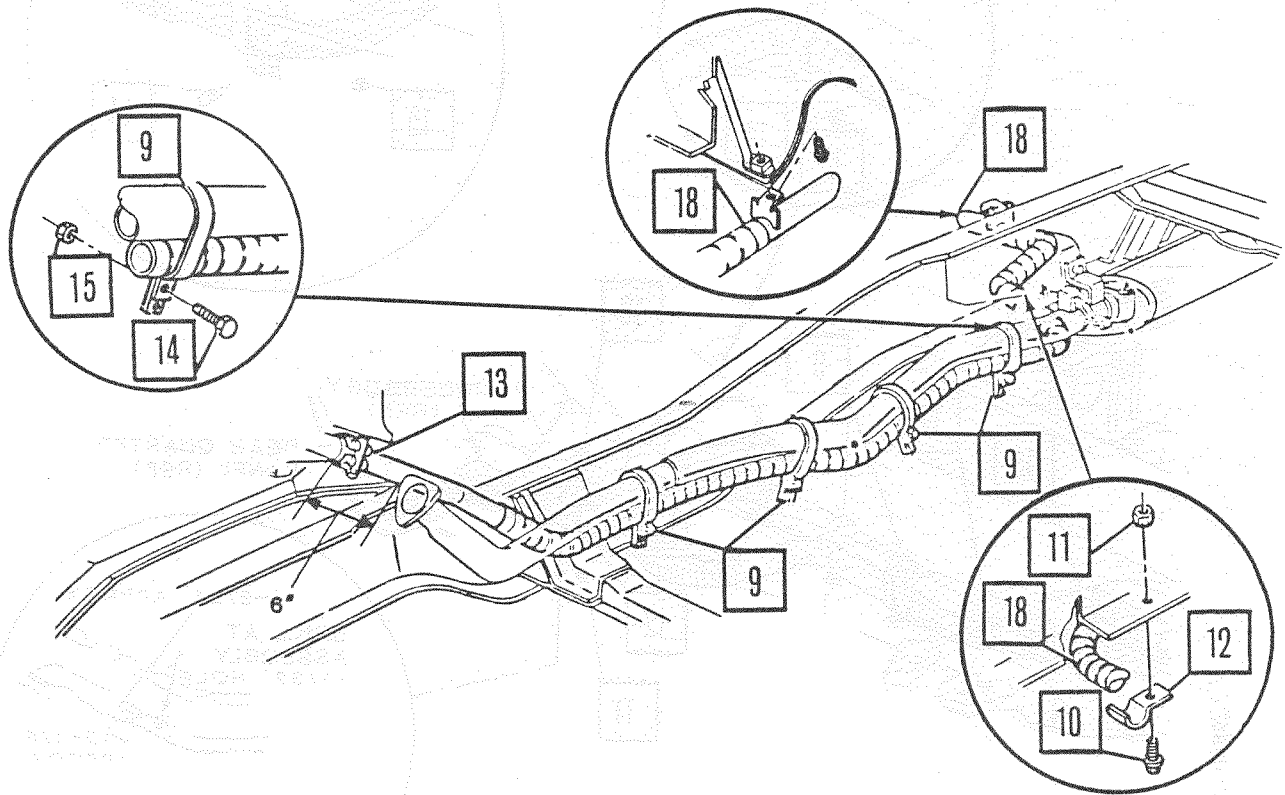

Figure 5. M1008, M1028 and M1031 Vehicles.
40. Route new heater tailpipe above transmission crossmember along right exhaust pipe (Figure 5.).
Front of new heater tailpipe should be approximately 6 inches above right exhaust manifold flange (Figure 5.).
42. Attach end of new heater tailpipe with bracket to right fender brace in front of right rear wheel with existing bolt (Figure 5.). Tighten to 14-22 lb.-ft. (19.0-30.0 Nm).
43. Install clamps along new heater tailpipe and existing exhaust pipe. Tighten to 50-60 lb.-in. (6.0-8.0 Nm) (Figure 5.).